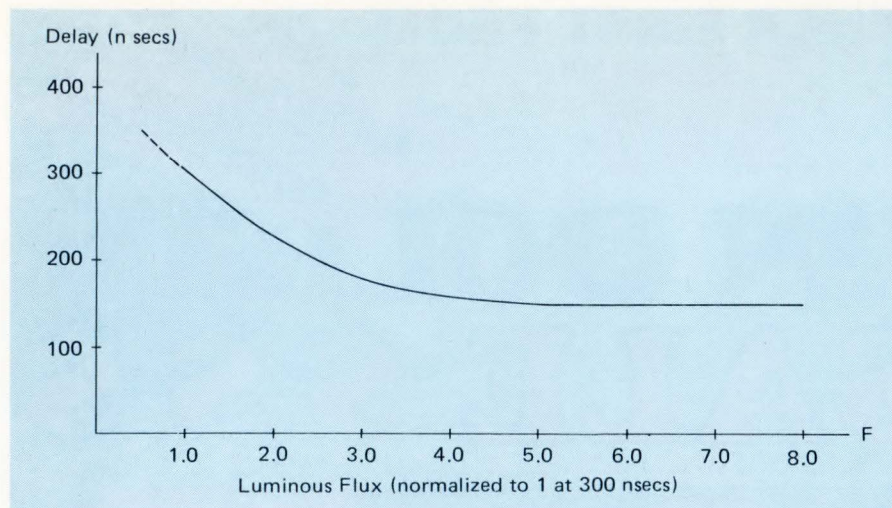

Fig 2 Delay vs. luminous input. Threshold is set to yield a low false alarm rate, determining this curve.
The threshold setting determines the false alarm rate, the sensitivity, and the response time (or delay). The threshold is usually set to yield an acceptably low false alarm rate and determines a curve, as typically shown in Fig 2, for delay as a function of luminous flux (F). For a typical CRT display, unity on the F coordinate corresponds to a photometric brightness of about 1 Foot Lambert, which is barely visible in a well-lighted room. At display brightness more typical of actual applications, the delay approaches 150 nanoseconds and becomes relatively constant.